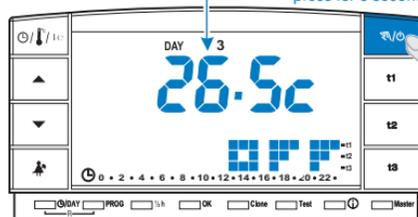

fig. 59
- Keep "⏸/⏹" pressed (approx 6 sec.) to enable this function, until **OFF** appears on the display to indicate that the chronothermostat has been disabled (e.g. fig. 59).